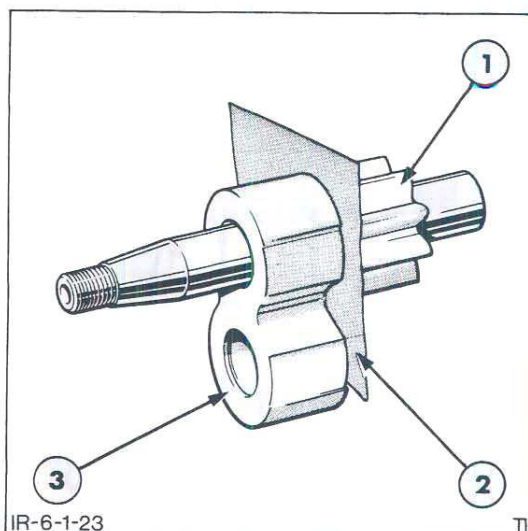

Figure 23
4. Examine the gears for scored or worn side faces or journals, damaged teeth, thread or keyway and surface cracks. Slight wear and scoring on the journals may be erased by mounting between lathe centres and polishing with 'O' grade emery paper lubricated with paraffin. Lightly scored side faces may be renovated by sandwiching emery paper between the gear face and a scrap bearing and rotating the gear, Figure 23.